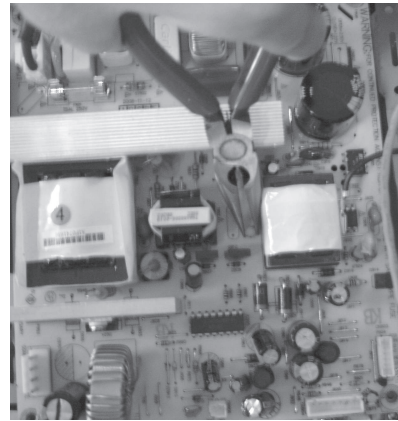

Figure 10
- 2) With a pincers to nip this space as shown in figure 10 and to take up the power board.